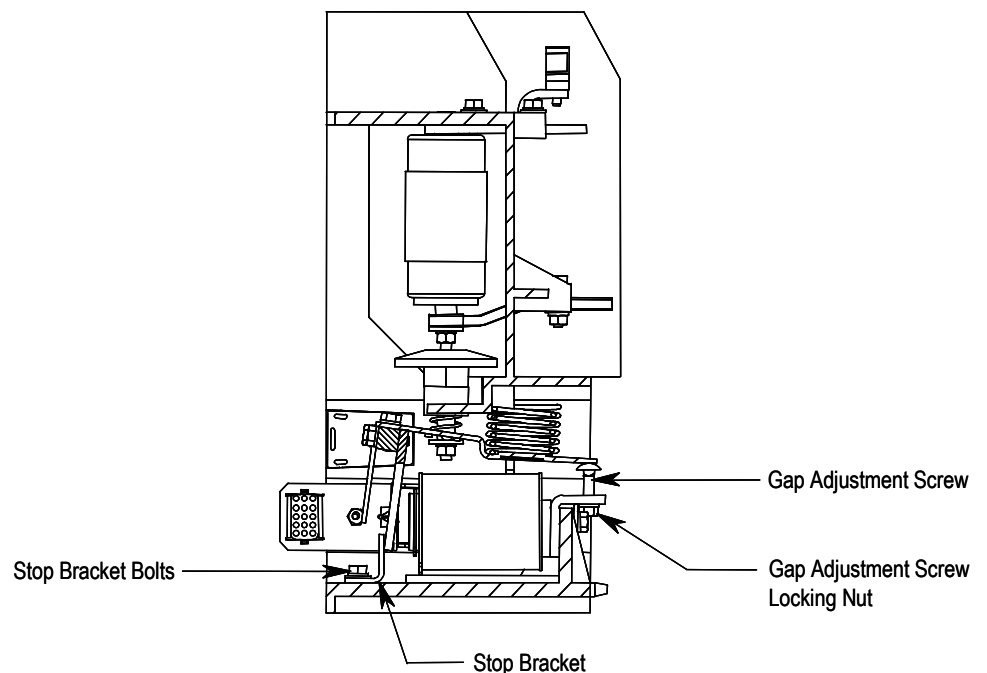

Figure 4.9 – Contact Gap Adjustment
11. The final contact gap for all three bottles must be between 0.180 in. and 0.200 in. (4.57 mm and 5.08 mm). If this is the case, the replacement procedure is complete. If further adjustment is required, all three gaps can be adjusted simultaneously by loosening the stop bracket bolts and adjusting the height of the gap adjustment screw at the rear of the contactor as shown in Figure 4.9. To adjust the height of the screw, first loosen the locking nut.
12. When the gap is correct, tighten the gap adjustment screw locking nut. Position the stop bracket lightly against the armature plate and tighten the bolts securing the stop in position. Make sure that the actuator plate contacts the gap adjustment screw and the armature plate contacts the stop bracket as shown in Figure 4.9.